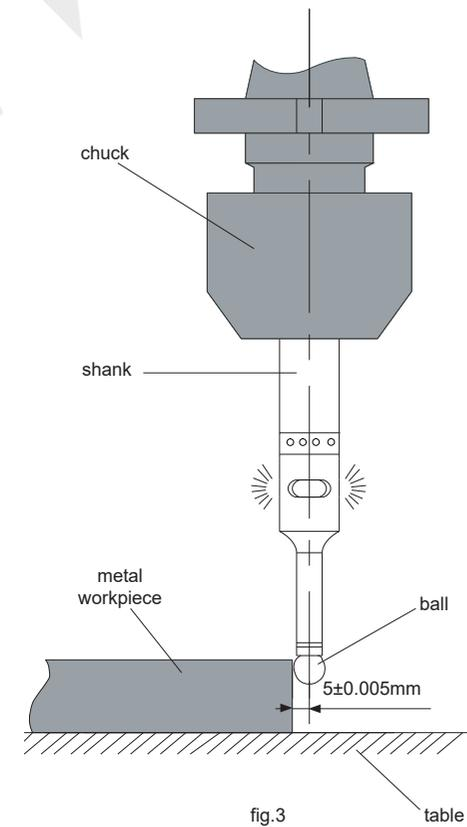

fig.3
2. The shank is electrically conducted to the metal workpiece through the chuck and table, the LED lights up and the beeper(6566-3) sounds, when the ball touches the workpiece gently(fig.3). Right now, the distance between edge finder axis and metal workpiece surface is $5\pm 0.005\text{mm}$.